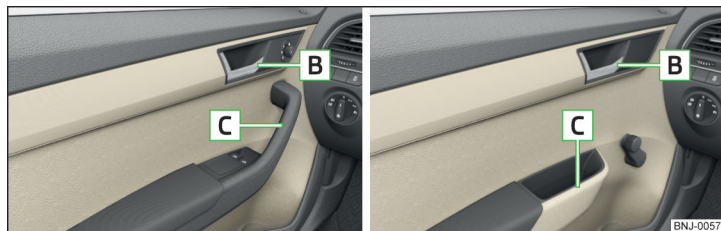

Fig. 47 Door opening lever - Variant 1 / Variant 2
- To **open from the inside** pull the door opening lever **B** » Fig. 47 and push the door away from you.